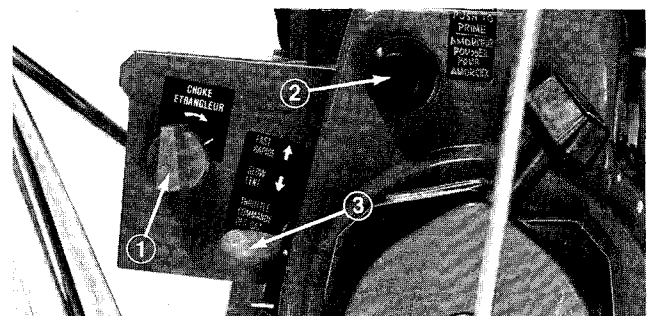

Figure 17
**Throttle** (Fig. 17) — Moving the throttle upward increases engine speed. Use only enough engine speed to throw snow to the place desired.
**Choke** (Fig. 17) — Choke for engine is on back side of heater box. Rotate choke clockwise to FULL choke position to start a cold engine. As engine warms up, move choke gradually to OFF.
**Primer** (Fig. 17) — Press primer to pump small amount of gasoline into engine for improved cold weather starting.